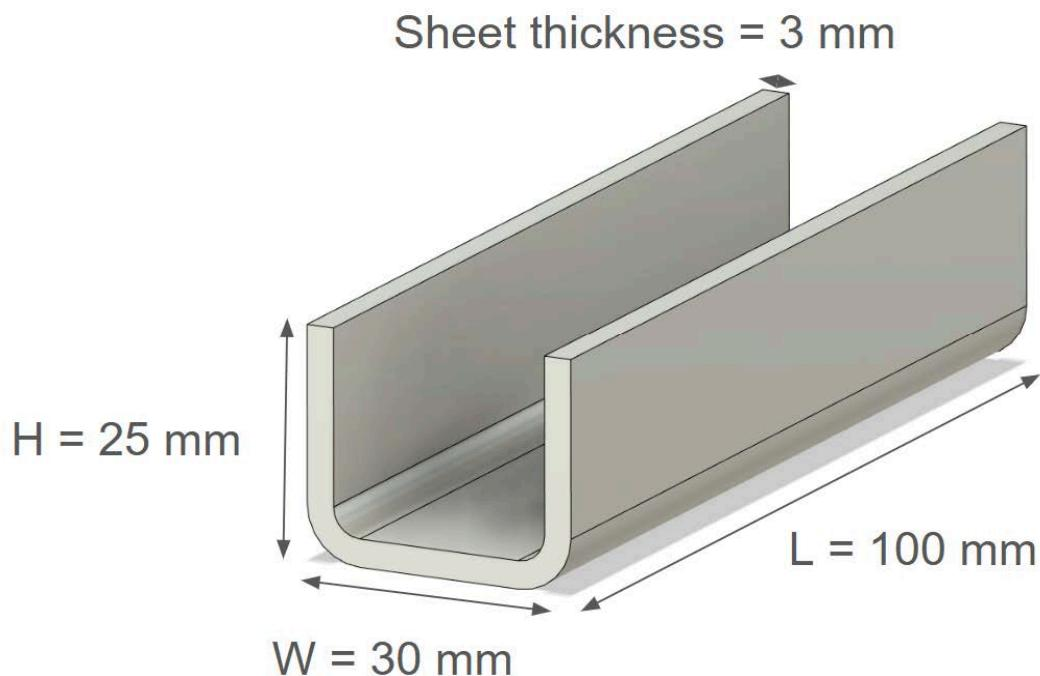

Figure 4. Bond arm made with sheet metal stamping and bending showing the desired part dimensions.
b) **Sheet metal stamping and bending.** You would like to create a bond arm with a U-shaped profile with dimensions shown in Fig. 4 using sheet metal stamping and bending.
- i) Using AL-5052 (properties in **Appendix 1**), what is the **shearing force** required for the stamping machine to create **one sheet** that is to be bent to the beam shown in Fig. 4?
- i) You successfully stamped and bent the aluminum 5052 sheet metal to the desired shape with barely acceptable springback. Your colleague then told you that we need to reduce the wall thickness to fit a larger module inside the cavity. To reduce the thickness without sacrificing bending stiffness, you thought of replacing AL-5052 with a Titanium alloy (Ti-6Al-4V) which has a higher Young's modulus. This way, you are able to reduce the thickness to 2 mm without reducing the bending stiffness of the beam. Name **at least 2 issues** you might encounter in creating a beam with the outer dimensions shown in Fig. 4 using the same stamping and bending setup?
- i) Estimate the **cooling time** to die-cast a part following the dimensions shown in Fig. 4. Assume a coefficient of $C = 80 \text{ s/mm}$.
i) **Geometry.** Would you keep a similar geometry to the aluminum bond arm, such as the H-beam (Fig. 3) or U-beam (Fig. 4)? Consider the shape and construction of carbon fiber sheets where they are commonly used (sports equipment and aerospace) and suggest a suitable geometry.